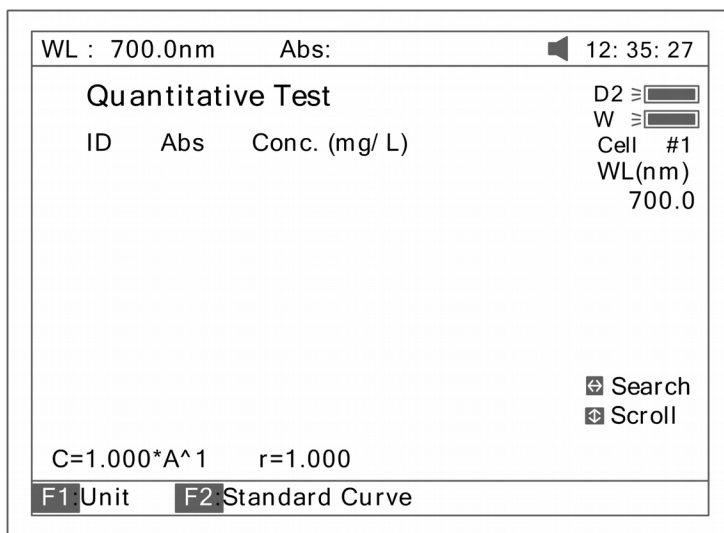
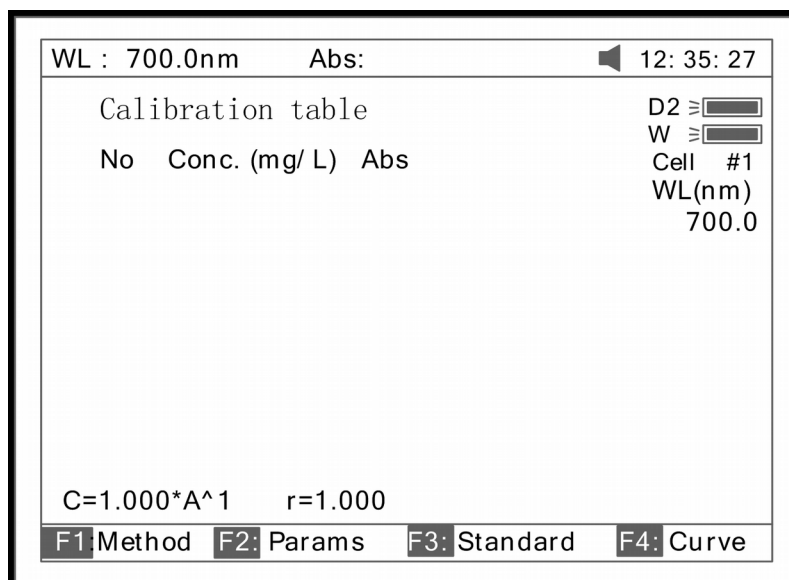
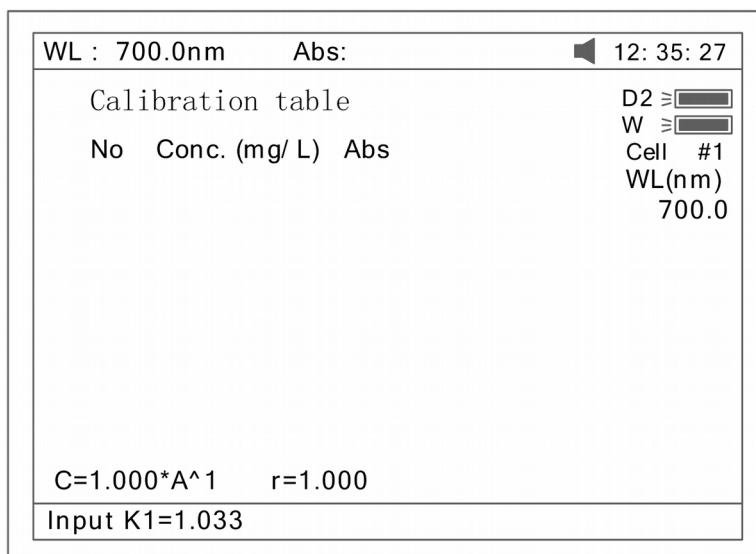
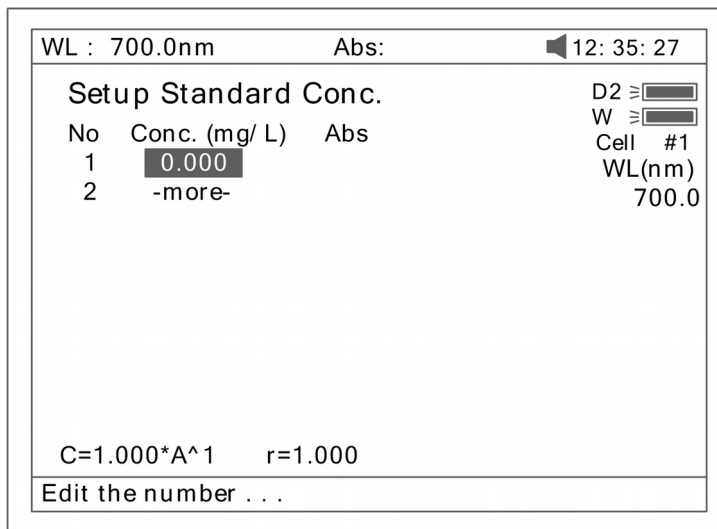

Fig 26
Fig 29
Fig 29A
Fig 30
Press **(2)** in Main Menu for "Quantitative" Test (Fig 26). Press **(ESC/STOP)** to exit.
Note: .If no automatic changer installed "cell #1" will disappear in Fig26.
3. Press **(F2)** in Fig 26 for more items to select . See Fig 29.
3.1 Press **(F1)** in Fig 29 to select fitting method. There are 4 methods for you to choose: Linear fit, linear fit through zero, square fit and cubic fit.
3.2 Press **(F2)** in Fig 29 to enter directly a known standard curve. Fig29A.
3.3 Press **(F3)** in Fig 29 to establish a standard curve by measuring a group of standard samples. See Fig 30.
b) Known standard curve, which is not saved in the instrument. See 3.2. For Fig 29 enter a known standard curve directly.
Note: All sample results must be taken in screen Fig26.